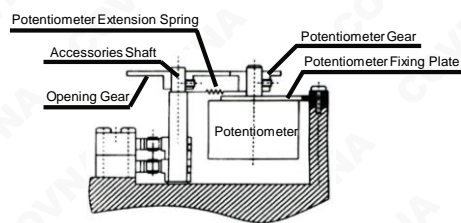

Figure 8
3. Adjustment of potentiometer (Figure 8)